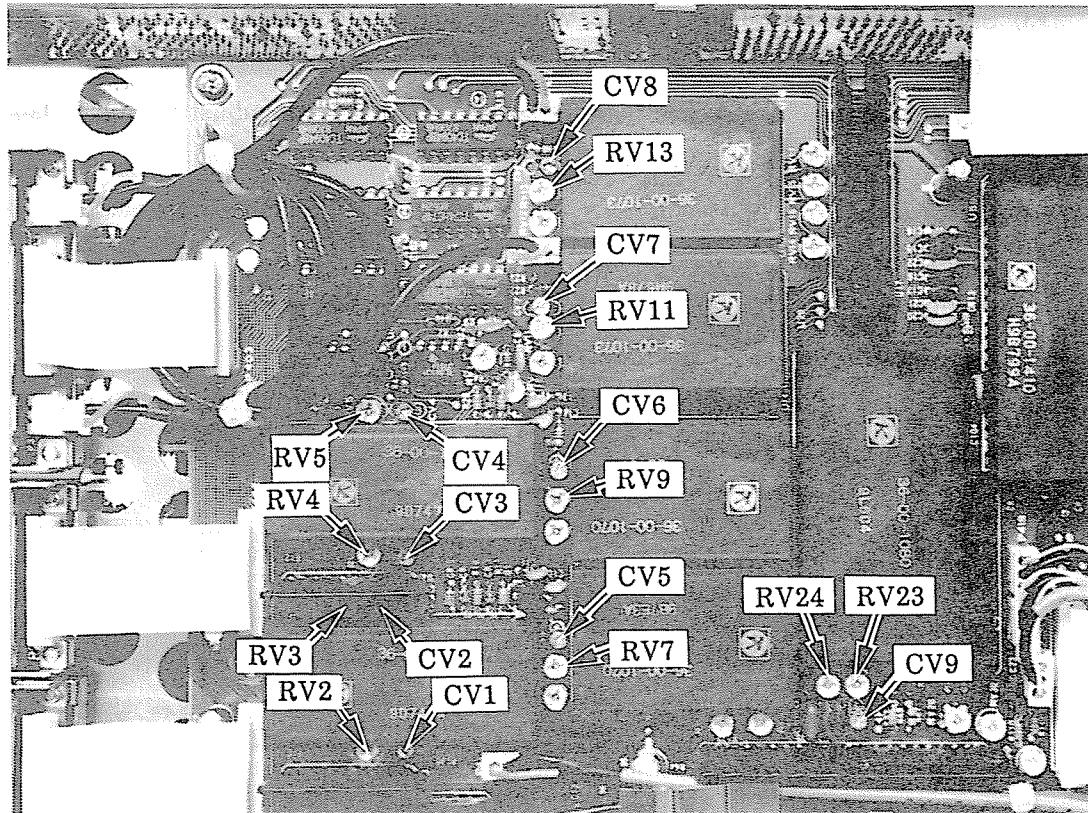

Fig. 4-22 Adjustment position of HIGH FREQUENCY COMPENSATION on board A4
- (1) Perform initial setting of the instrument in accordance with Table 4-3.
- (2) Set "VERT MODE" to CH2 ONLY, and the input coupling of CH2 to "DC".
- (3) Set "A TIME/DIV" to 0.2 us/DIV.
- (4) Connect the fast rise square wave output of a vertical axis calibrator which has been set to about 1 MHz, to the CH2 input, and adjust the signal output to 5 DIV.
- (5) Confirm that the flat characteristics of the square waves, including overshoot and ringing, are within  $\pm 3\%$ . If they are not, adjust HIGH FREQUENCY COMPENSATION (RV23, RV24, CV9, RV9, CV6, RV4 and CV3) on board A4, and also HIGH FREQUENCY COMPENSATION (RV1, RV2, RV5, CV1, CV2, and CV3) on board A5, shown in Figs.4-22 and 4-23.
- (6) Connect the signal output to CH1, and set "VERT MODE" to CH1 ONLY.
- (7) Confirm that the flat characteristics of the square waves, including overshoot and ringing, are within  $\pm 3\%$ . If they are not, adjust HIGH FREQUENCY COMPENSATION (RV7, CV5, RV2, AND CV1) on board A4 showing in Fig.4-22.
- (8) SET "VOLTS/DIV" of CH1 to 5 mV/DIV.
- (9) Confirm that the flat characteristics of the square waves, including overshoot and ringing, are within  $\pm 3\%$ . If they are not, adjust HIGH FREQUENCY COMPENSATION (RV3, CV2) on board A4 shown in Fig.4-22.
- (10) Connect the signal output to CH2, and set "VERT MODE" to CH2 ONLY.
- (11) Set "VOLTS/DIV" of CH2 to 5 mV/DIV.
- (12) Confirm that the flat characteristics of the square waves, including overshoot and ringing, are within  $\pm 3\%$ . If they are not, adjust HIGH FREQUENCY COMPENSATION (RV5, CV4) on board A4 shown in Fig.4-22.
- (1) Perform initial setting of the instrument in accordance with 4-3.
- (2) Set "VERT MODE" to CH3 ONLY, and the input coupling of CH3 to "DC".
- (3) Set " $\div 5$ " of CH3 to OFF.
- (4) Connect the fast rise square wave output of a vertical axis calibrator which has been set to about 1 MHz, to the CH3 input, and adjust the signal output so that the waveform on the screen is 5 DIV.
- (5) Confirm that the flat characteristics of the square waves, including overshoot and ringing, are within  $\pm 5\%$ . If they are not, adjust HIGH FREQUENCY COMPENSATION (RV11, CV7) of board A4 shown if Fig.4-22.
- (6) Connect the signal output to CH4, and set "VERT MODE" to CH4 ONLY.
- (7) Set " $\div 5$ " of CH4 to OFF.
- (8) Confirm that the flat characteristics of the square waves, including overshoot and ringing, are within  $\pm 5\%$ . If they are not, adjust HIGH FREQUENCY COMPENSATION (RV13, CV8) on board A4 shown in Fig.4-22.